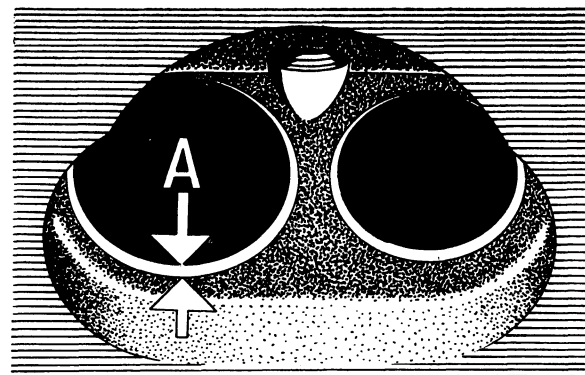

Fig. 2-20. Valve seat width A=2 mm (0.08")
2. Grind the valve seals. Use an electrically driven grinder or a hand milling cutter. A pilot spindle must be carefully fitted before work is started and any worn guides must be replaced with new ones. The seat should be ground until a good sealing surface is obtained. The angle is 45° and the width of the sealing surface should be approx. 2.0 mm (0.08"), see "A" Fig. 2-20. If the sealing surface is too wide after grinding, it can be reduced by using a 70° grinding stone from the inside and a 20° grinding stone from the outside.